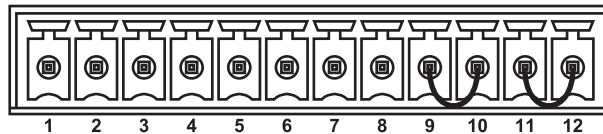

Figure 18. Door contacts detail.
- If all the door contacts are not being used, you must leave the factory-installed jumper wire in place, as show in Figure 18.